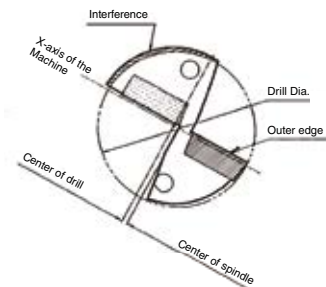

Fig.4 Excessive offset
- (1) Align the drill with the outer insert face parallel to the X-axis of the tool turret. (Fig.4)
- (2) Align the scale (for the lathe) on the flange face of the sleeve to the center of the drill coolant plug.
- (3) When no core remains, rotate the sleeve to (+) direction to make the core larger, and when the core diameter is more than 1mm, rotate the sleeve to (-) direction to make the core smaller.
- (4) When rotating the sleeve, insert the wrench supplied with the drill into the hole of the flange and then rotate the sleeve.
- (5) After Completing the adjustment, tighten the drill directly through the window on the sleeve.
However, be sure not to make the hole diameter smaller than the drill diameter by 0.2mm or more. Otherwise, the toolholder will interfere with the drilled hole. (Fig.4)